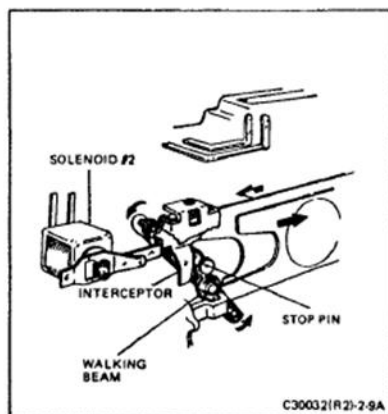

FIGURE 2-9A SOLENOID S2 OPERATION
- 4. Installing a flash bar in the camera flash socket switches the ECM to the flash mode. As previously explained, at a point in the picture taking sequence (flash mode), solenoid #2 is energized. Fastened to the plunger is the pull down bar. When the plunger pulls this bar down, it moves the interceptor into the position where it will intercept a pin (the stop pin) on the walking beam (Figure 2-9A). Now when the shutter blades move towards the open position, they will be interrupted by the mechanism just described which means that the maximum size of the blade opening (aperture) is determined by the focus setting of the camera. As the camera (and thus the flash lamp) is moved closer to the subject, the maximum aperture is reduced so that a correct exposure will result. The reverse (greater distance/greater aperture) is also true.